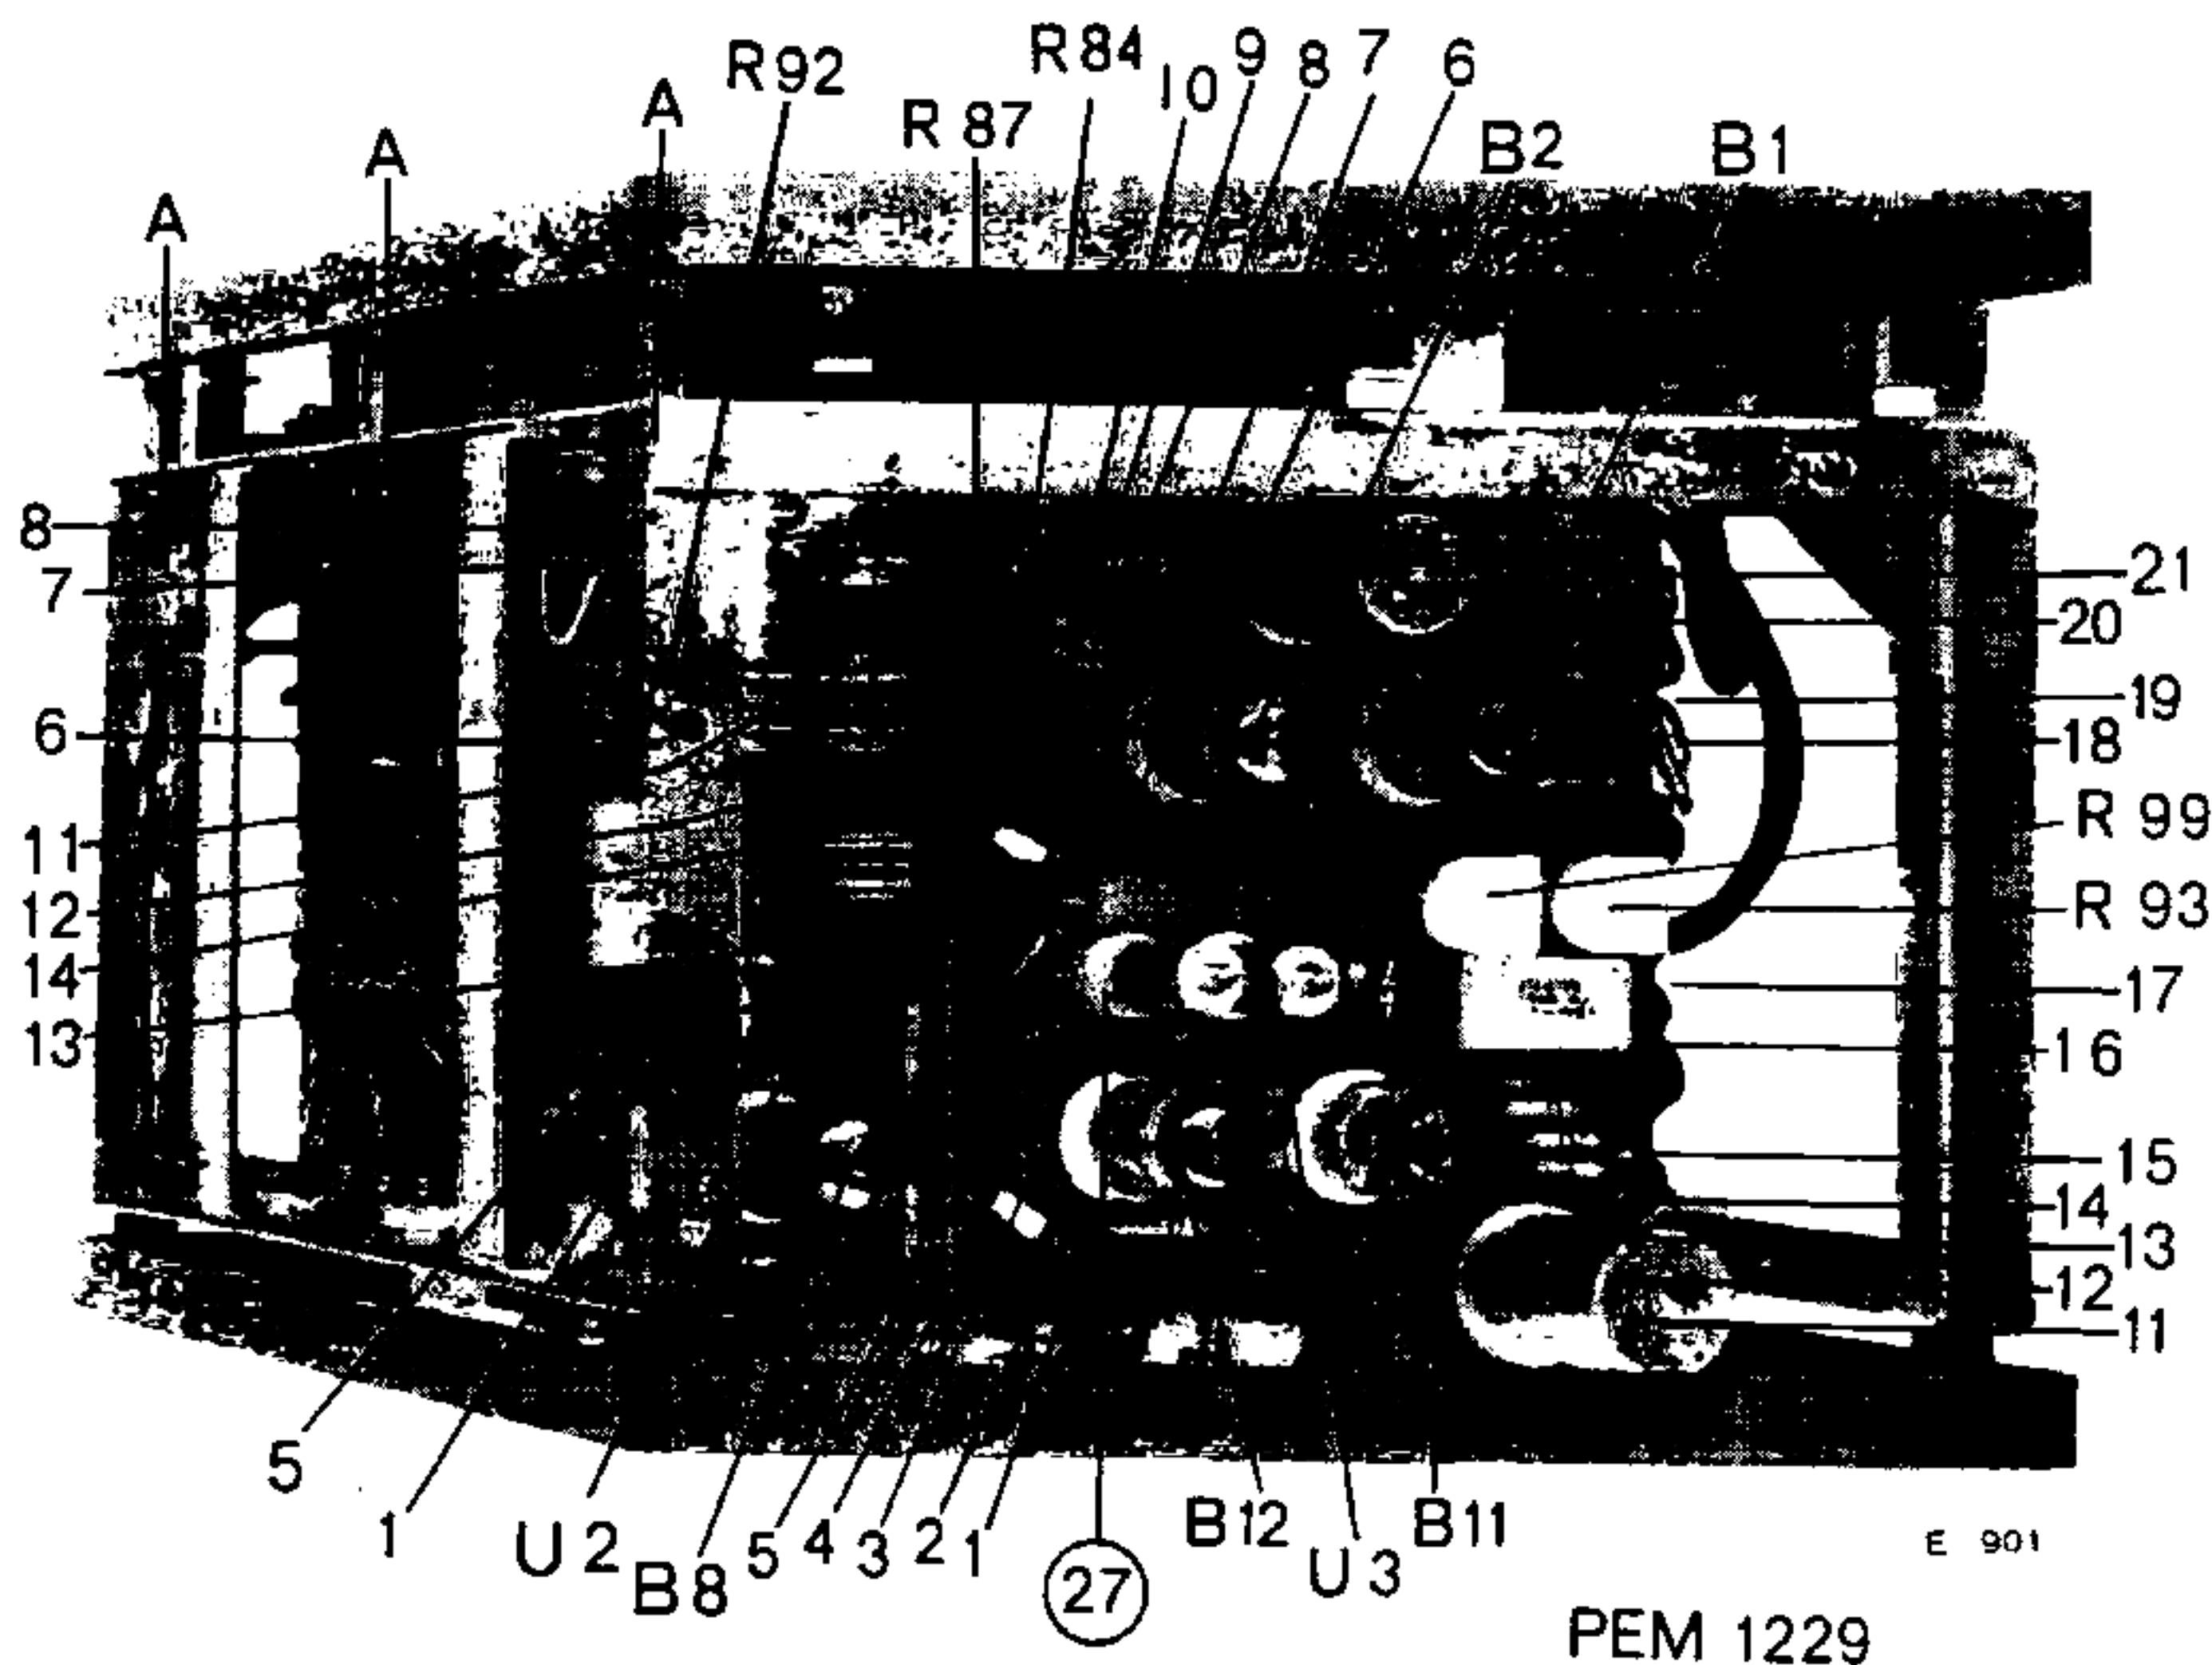

Fig. 12. Left-hand side view
- Adjust the internal calibrating voltage by means of the selector resistor R84 or R87 so that it is equal to the external voltage within 0.3 % (Fig. 12).
The adjustment is effected by means of potentiometer R92 (Fig. 12).
- Adjust potentiometer R93 (Fig. 12) so that the cathode resistors of B1 and B11 (connecting points U3/13 and U3/18) are at exactly the same potential.
– Adjust the deflection of the pointer to minimum by means of potentiometer R99 (Fig. 12).
- After removal of the screws "A" (Fig. 12) lift the front panel, together with the loose edge of the cabinet, from the frame.
- Remove the fixing screws A (Fig. 12) from the front frame, so that it can be pulled slightly forward, together with the text-plate.